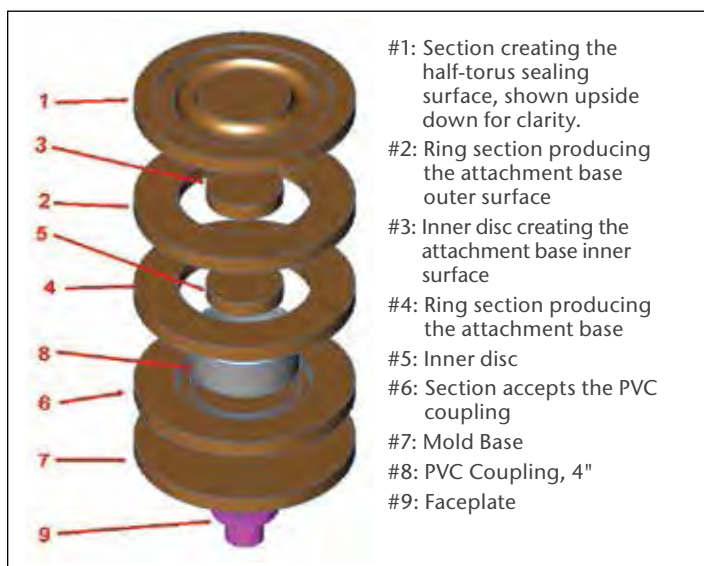

Figure 1a. Mold components.
Many of us have used PVC couplings, recessed and glued into medium-density fiberboard (MDF) for vacuum chucks. Funny foam, rubber PVC couplings, and other materials have been used as seals. I recently found a material that is easy to use for making first-rate, inexpensive, and reusable seals for these chucks. It's called Oogloo (*see sidebar Oogloo*). After extensive use, the seals can be cleaned and, if necessary, repaired. Once the mold is produced, seals are easily made and reproduced. *Figures 1a and 1b* show the components and configuration of the mold.
2. Turn a groove into the MDF approximately  $\frac{3}{8}$ " deep to accept a 4" PVC coupling (part #8 in *Figure 1a*). Depending on the type and size of
4. Remove the outermost section from the faceplate and remount the first two. After measuring the outermost and innermost recess diameters, attach the third section, which will be used to produce parts, #4 and #5 in *Figure 1a*. Part #4 is a ring having an inside diameter that will match the premeasured outer recess diameter on the second section. Part #5 is a disc that will match the premeasured inner recess diameter. ►